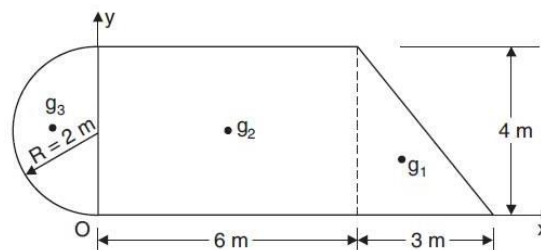

Fig. 15
4. Determine the centroid of the area shown in Fig. 15 with respect to the axis shown